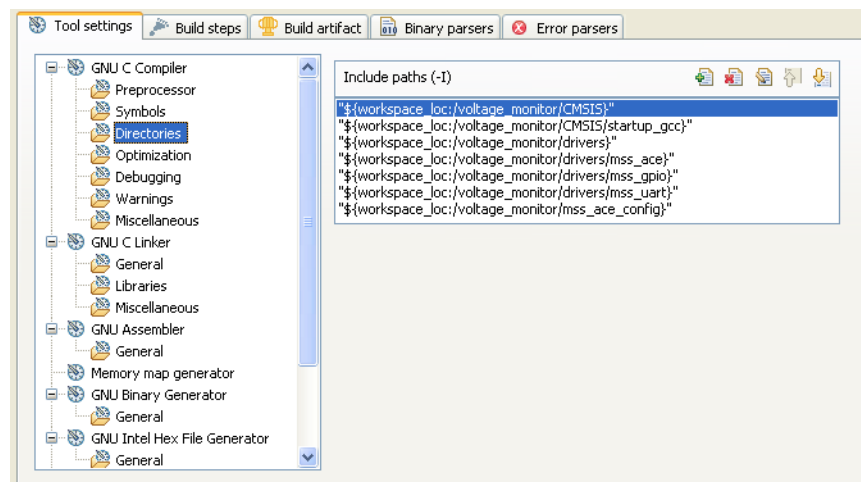

Figure 3-11 · Project Folder Settings
8. Repeat this process for all of the directories in the project . All of the directories in the project should be visible in the Include paths windows of the Settings dialog box (Figure 3-11).